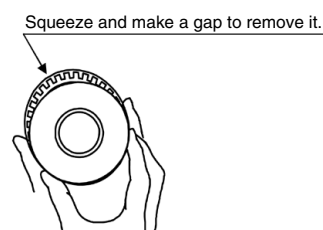

Fig. 2 Removal of the piston seal
③9 Piston seal: Remove the piston seal. (Fig. 2)
④0 Cylinder tube gasket: Insert a watchmaker's screwdriver to pull out the seal.